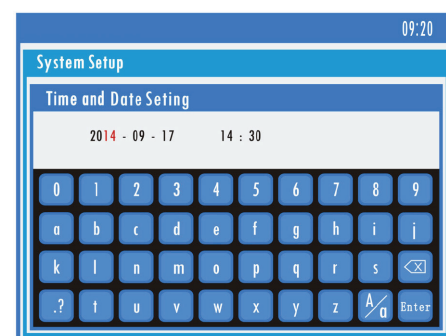

Fig 5-6 Time and Date Setup
• **I Date Setup:** Click to modify year, month and date, click ENTER to update system time. (Fig 5-6).